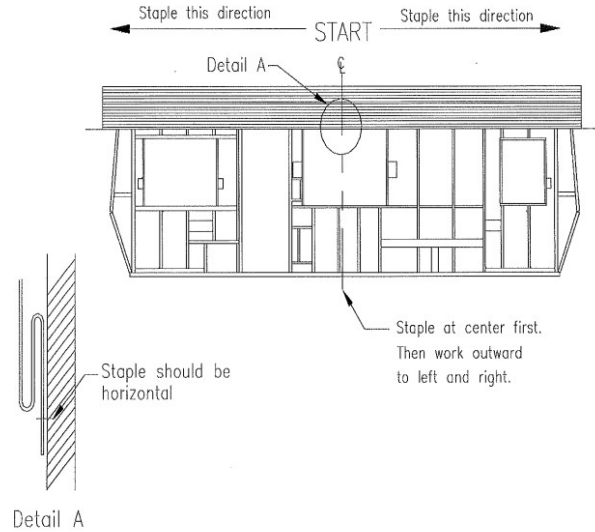

Figure 6
- **Warning – Stapling at the ends towards the middle will entrap the metal which may cause heat expansion deformation (See Figure 6)**